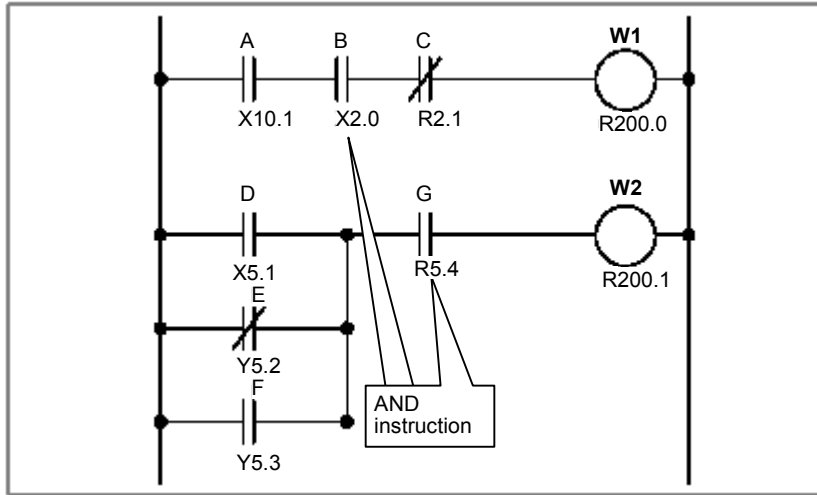

Fig. 4.1.6
- (1) This instruction produces a logical product.
- (2) For examples of how the AND instruction is used, see Fig. 4.1.6 and Table 4.1.6.